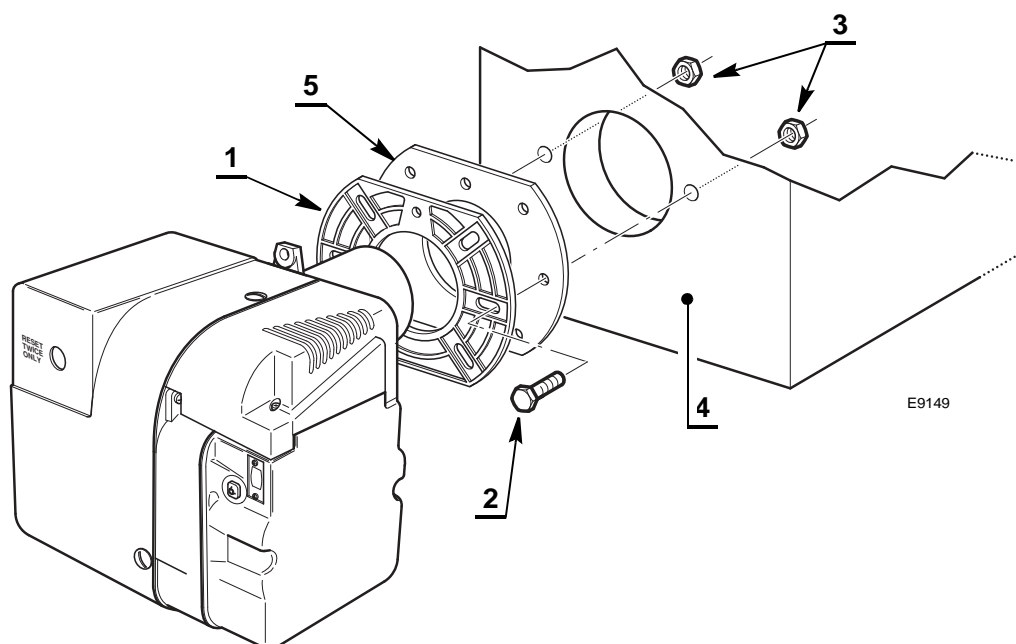

Fig. 7
- Fix the flange 1)(Fig. 7) to the boiler door 4) using screws 2) and (if necessary) the nuts 3) interposing the insulating gasket 5).